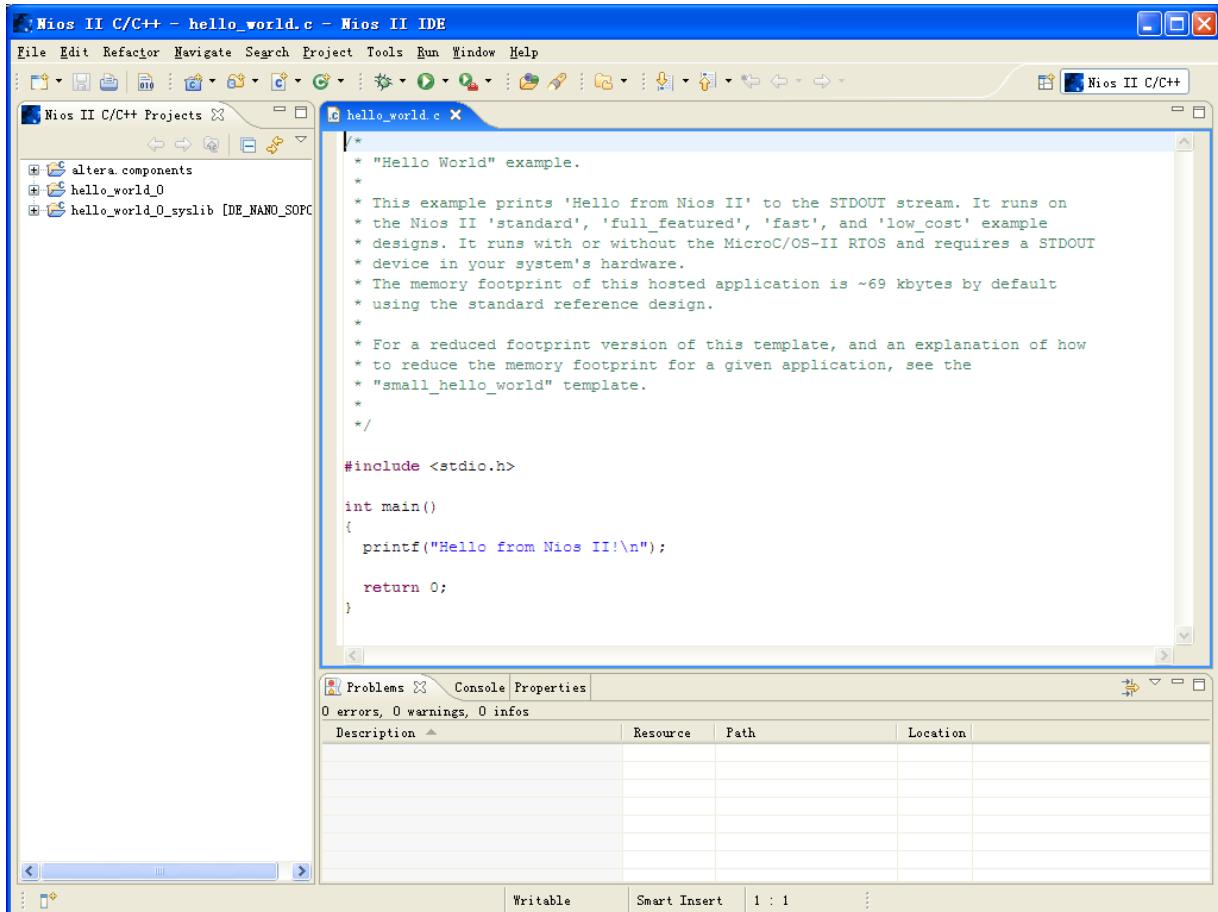

Figure 7-56 Nios II IDE C++ Project Perspective for `hello_world_0`
5. Click **Finish**. The NIOS II IDE creates the **hello_world_0** project and returns to the NIOS II C/C++ project perspective, as shown in **Figure 7-56**.